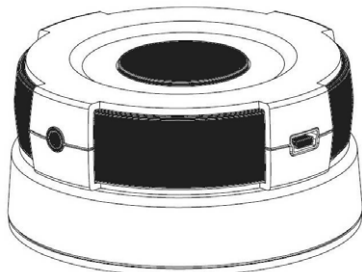

Figure 1 ZXT-120
The ZXT-120 is a Z-Wave to air-conditioner (AC) IR Extender (Figure 1) and it works with any Z-Wave compliant gateway or portable controller by translating Z-Wave's Thermostat commands to AC IR control code. User can set the IR code from the built-in code library of ZXT-120 through the configuration commands, or use the learning function of ZXT-120 through the UI on gateway. ZXT-120 also built-in a temperature sensor that allow to report your room temperature to home gateway. It can be utilized to control or monitor your room temperature by your smart phone or PC while you are at office, home anywhere or around the world.